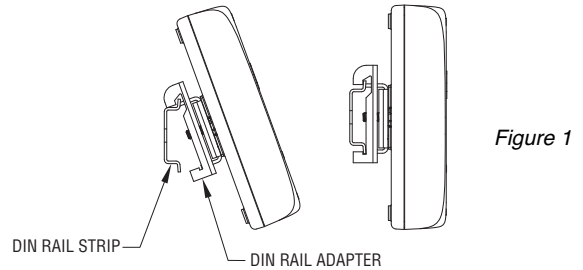

Figure 1
3. From an angle, hook the DIN Rail Adapter to the DIN Rail Strip (see Figure 1).